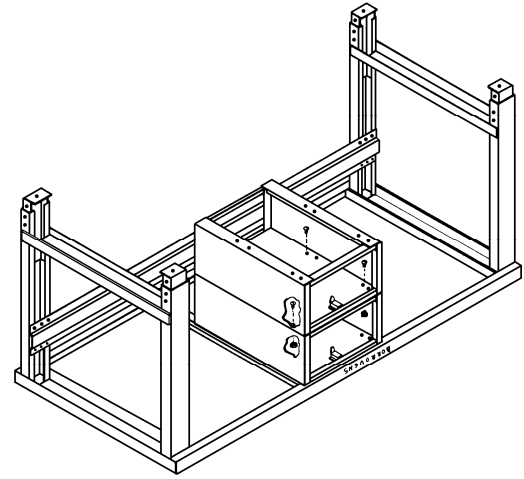

FIGURE 26
- Remove the tier drawer from the tier drawer case. Place the tier drawer case, with the open side of the case facing upward, on the tier drawer case already fastened to the work bench. See Figure 26. Position the drawer case so that both cases are flush with each other on all four sides and that the holes on the top of the new tier drawer case are aligned with the holes on the bottom of the existing tier drawer case. Fasten the tier drawer cases together with (4) screws and nuts (Items 2 & 3) as provided.